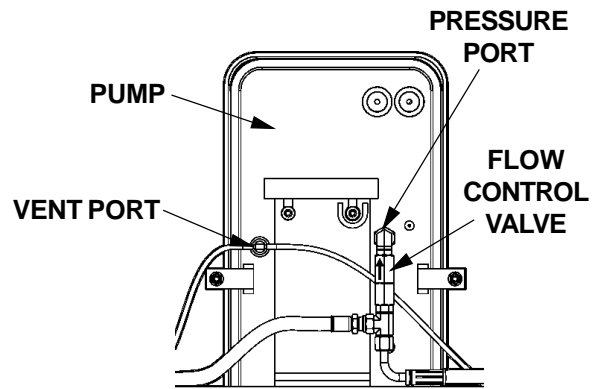

FIG. 48-3
7. Check if Flow Control Valve (**FIG. 48-3**) is pointing to the direction of restricted fluid flow (pointing up and back toward pump). If required, remove Flow Control Valve and install it correctly (**FIG. 48-3**).